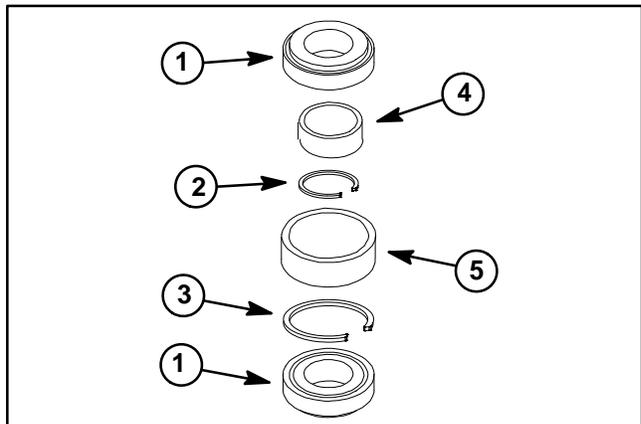

Figure 7
NOTE: A replacement spindle bearing set contains two (2) bearings, a spacer ring and a large snap ring (items 1, 2 and 3 in Fig. 7). These parts cannot be purchased separately. Do not mix bearing set components from one deck spindle to another.
NOTE: A replacement bearing spacer set includes the inner spacer and outer spacer (items 4 and 5 in Fig. 7). Do not mix bearing spacers from one deck spindle to another.
IMPORTANT: If bearings are being replaced, make sure to use the spacer ring that is included with the new bearing set (Fig. 7).